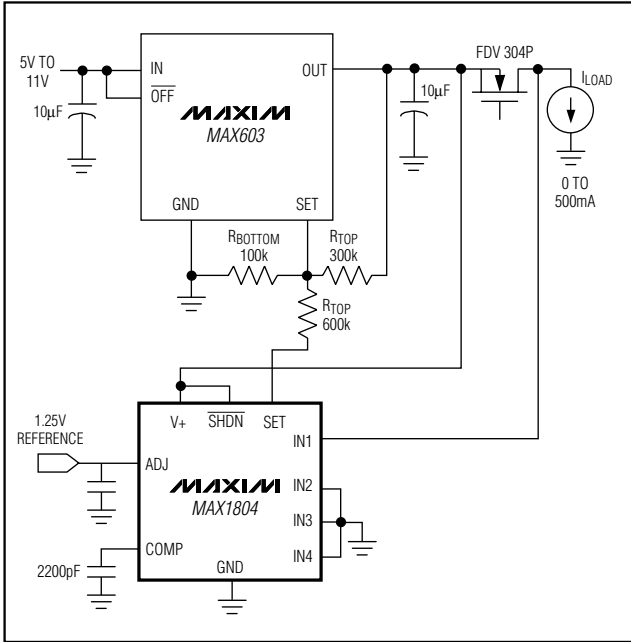

Figure 3. MAX1804 Used with Linear Regulator
**NOTE:** Circuit of Figure 3.